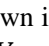

Figure 4.2 Drive Command Generator
The drive command generator shown in Figure 4.2 produces final drive commands (**FWD**: Drive the motor in the forward direction) and (**REV**: Drive the motor in reverse direction) from the run commands that are given by various means and modified/switched by function codes.
- In the block diagram, all of these are noted as operation commands. The data setting for function code E98 to specify the terminal signal property for [FWD] and E99 for [REV] determine which bit value should be selected as the run command. If bits 13 and 14 have the same setting to specify the property for (FWD) or (REV), the output of bit 13-14 processor logic will follow the truth table listed in Figure 4.2.